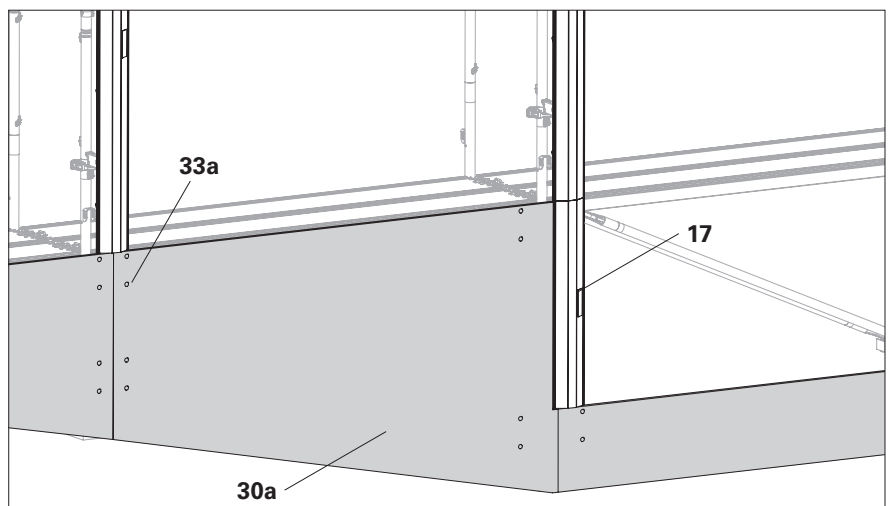

Fig. C4.05b
3. Mount the wooden panel on one side on the support rail (**17**) of the transition frame. On the other side, tighten to multi-console brackets (**33a**) with wood screw 5x20 TK-TX20 HSX. (Fig. C4.05b)